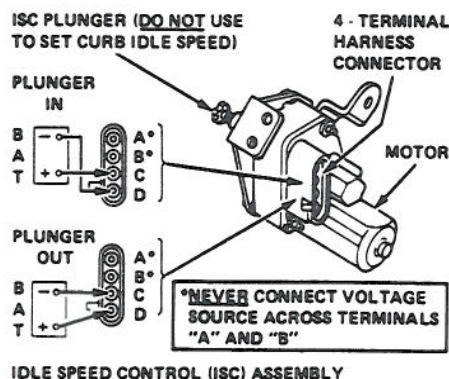

Fig. 22 Idle Speed Control (ISC) motor test connections. E2SE carburetor
4. Using a jumper wire, connect battery voltage to terminal "C" on ISC motor, Fig. 22, then connect a jumper wire between terminal "D" and ground.
- Using a jumper wire, connect battery voltage to terminal "C" on ISC motor, Fig. 22, then connect a jumper wire between terminal "D" and ground.